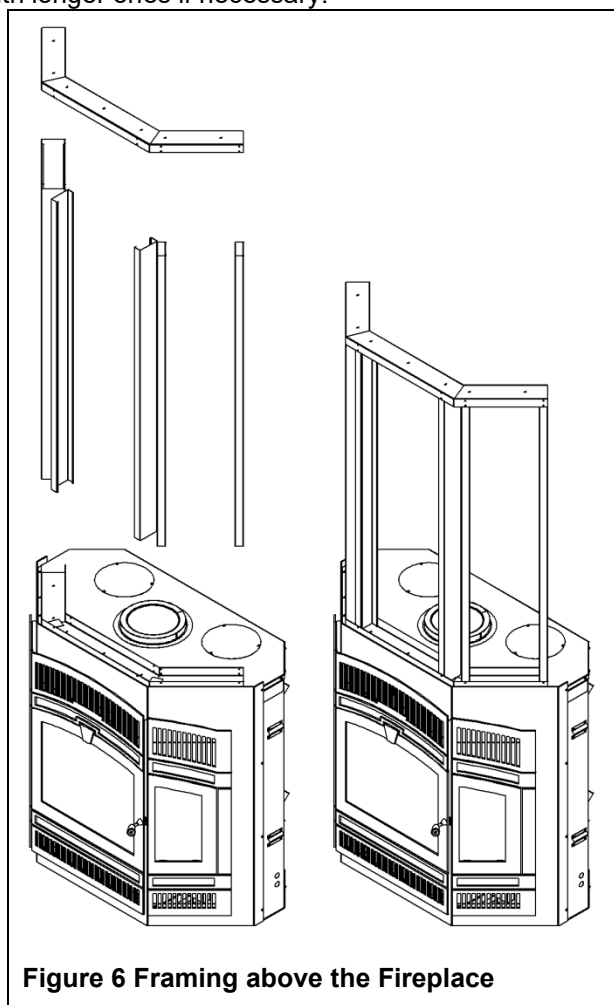

Figure 6 Framing above the Fireplace
The wall above the fireplace needs to be framed in steel studs to at least the height defined in Table 1 (L). With the fireplace, we provide a channel for the steel studs that is installed on top of the fireplace; the steel studs necessary to frame above the fireplace up to 97" from the base of the fireplace and the channel necessary to attach the steel studs to the ceiling (see Figure 6).